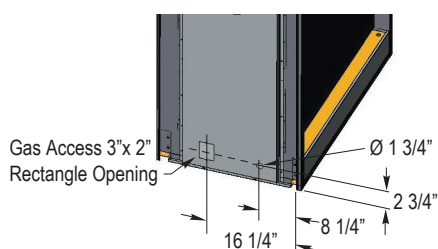

Figure 21. Gas line access.
- See Figure 21 below for location of gas line access.
When covering the upper metal portion of the fireplace (as shown, Fig. 21) with a non-combustible material, Please **Note:** The decorative facing materials may be subject to temperatures in excess of 250° F. This should be considered when selecting facing materials.